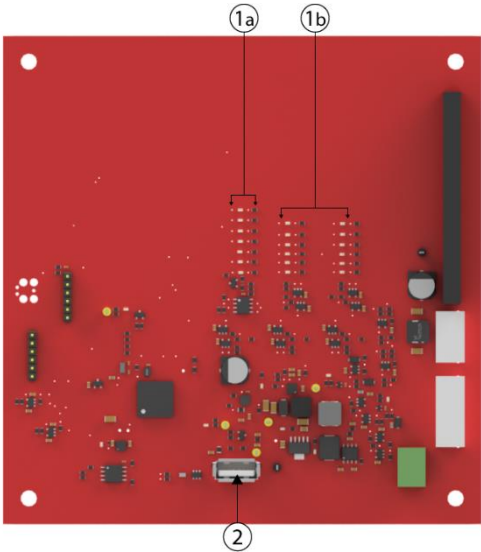

Figure 2-3
- 2.10.1. The **J13 USB Connection Port** (Figure 2-3 item 2) is located on the bottom of the control board. The USB connection port is used by authorized service dealers to extract event log data files.
- 2.10.2. The TSP Control Board contains an array of **LED indicators** (Figure 2-3 item 1a & 1b).
The two columns of **LED indicators** (Figure 2-3 area 1b) on the right side are labelled with a corresponding fire pump controller interconnect terminal.
To the left of the fire pump controller interconnect terminal LED indicators, are a single column of **LED troubleshooting indicators** (Figure 2-3 area 1a) related to engine functions.